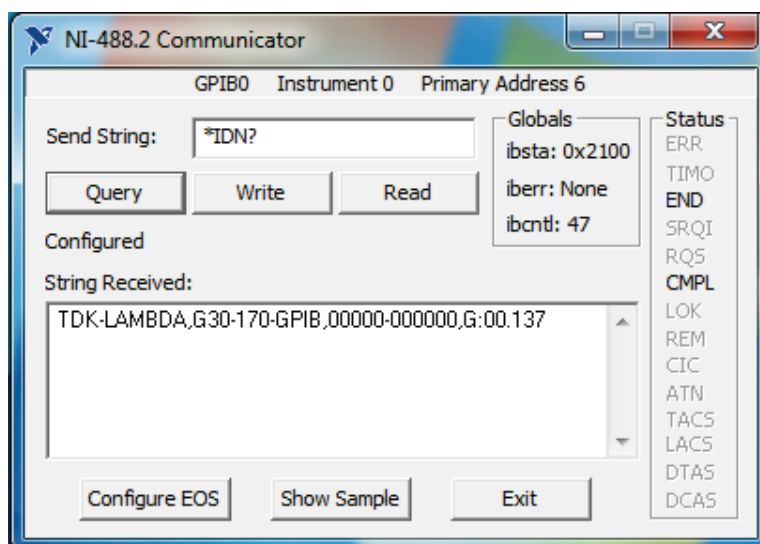

Figure 7–6: ID String Query
NI-488.2 Communicator appears. Refer to Figure 7–6.
6. Click Query. Refer to Figure 7–6.